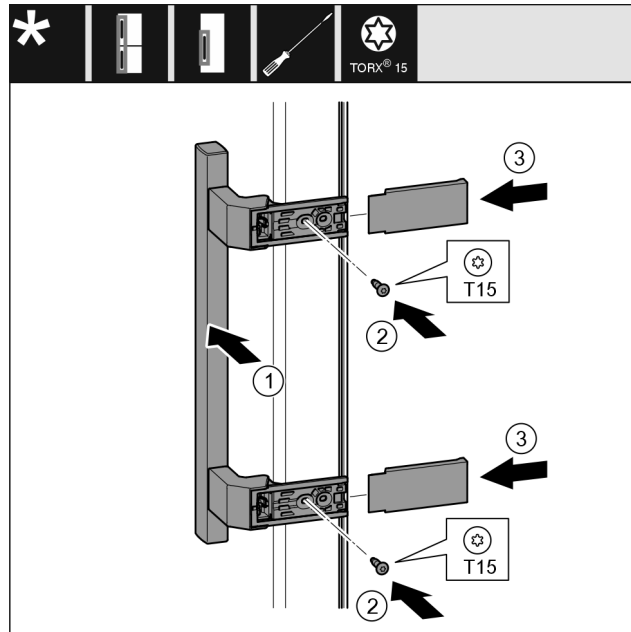

Fig. 26
- ▶ Place the handle Fig. 26 (1) on the opposite side.
- ▶ Tighten screws Fig. 26 (2) with screwdriver.
- ▶ Place the covers Fig. 26 (3) on the side and push them on.